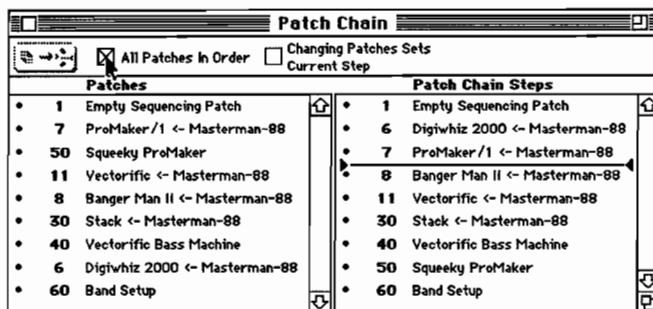

Figure 9-9: Patch Chain After Checking All Patches In Order
- Click the **All Patches In Order** check box to check it. Your Patch Chain now lists, in numerical order, all the patches in your current patch document (see Figure 9-9).